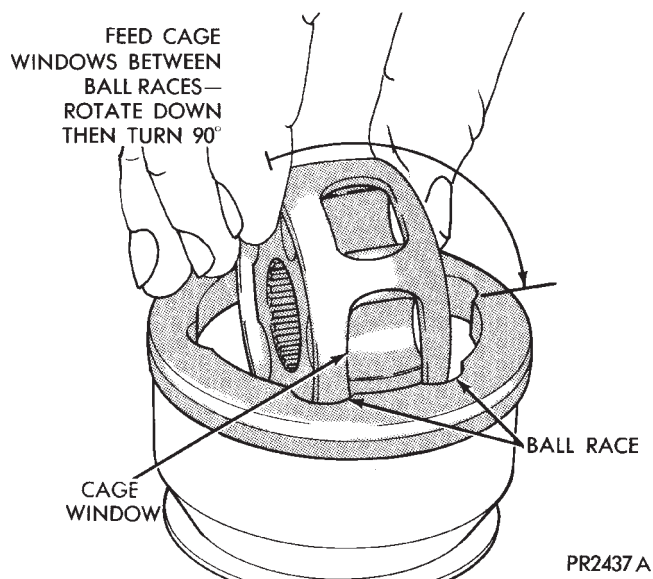

Fig. 4 Installing Cage & Cross into Housing
(6) Align opposing cage windows with housing land and feed cage assembly into housing (Fig. 4).